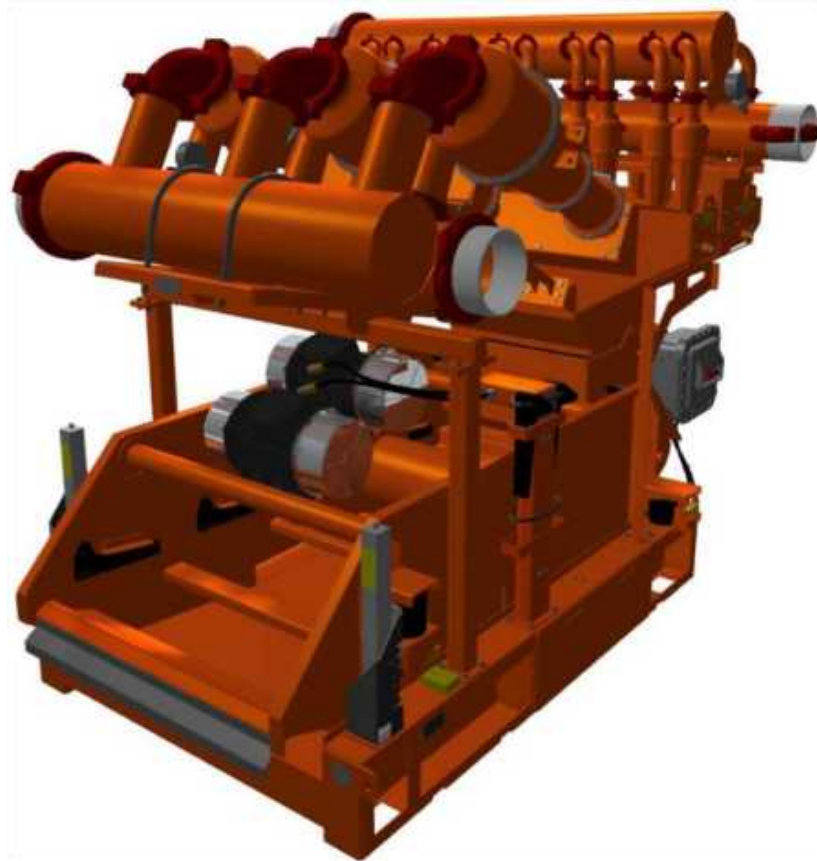

Figure 8. MONGOOSE PRO Mud Cleaner
- Figure 8 is an example of a MONGOOSE PRO Mud Cleaner equipped with a 3-12 D-SANDER and 10T4 D-SILTER.